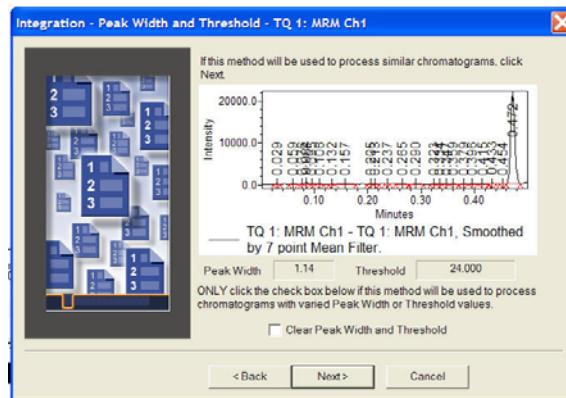

Figure 112 - Peak Width Threshold window
12. The chromatogram will be displayed with many peaks integrated (Figure 112). Ensure that the **Clear Peak Width and Threshold** settings are unchecked, and then click **Next**.